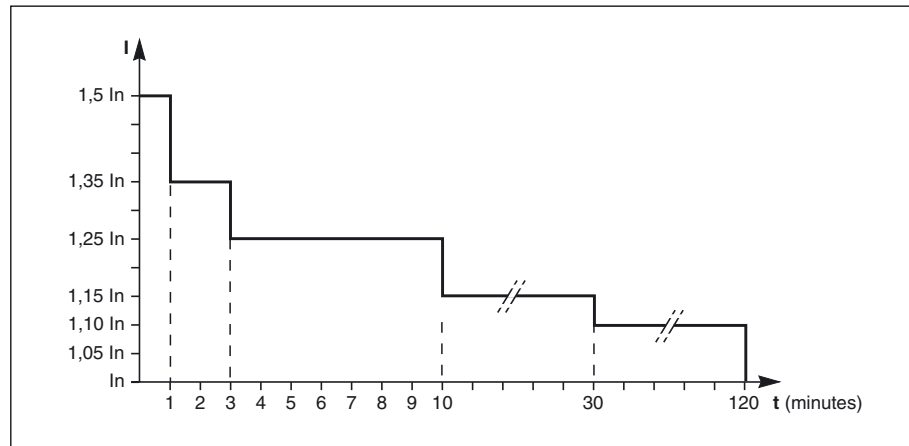

Fig. 17
▶ in the event of a small but extended overload (i.e. a continuous level of power exceeding the full rated load), the inverter will continue to supply power for a period depending on the magnitude of the overload (10 minutes for a 125% overload, 1 minute for a 150% overload). See figure 17 (Overload curve);
- ▶ green "load protected" light ⑤ off,
- ▶ buzzer ① on,
- ▶ red "load not protected" light ② on.
- ▶ in the event of a small but extended overload (i.e. a continuous level of power exceeding the full rated load), the inverters will continue to supply power for a period depending on the magnitude of the overload (10 minutes for a 125% overload, 1 minute for a 150% overload, see figure 17), and then stop;
- ◻ green "load protected" light ⑤ off,
- ◻ buzzer ① on,
- ◻ red "load not protected" light ② on.